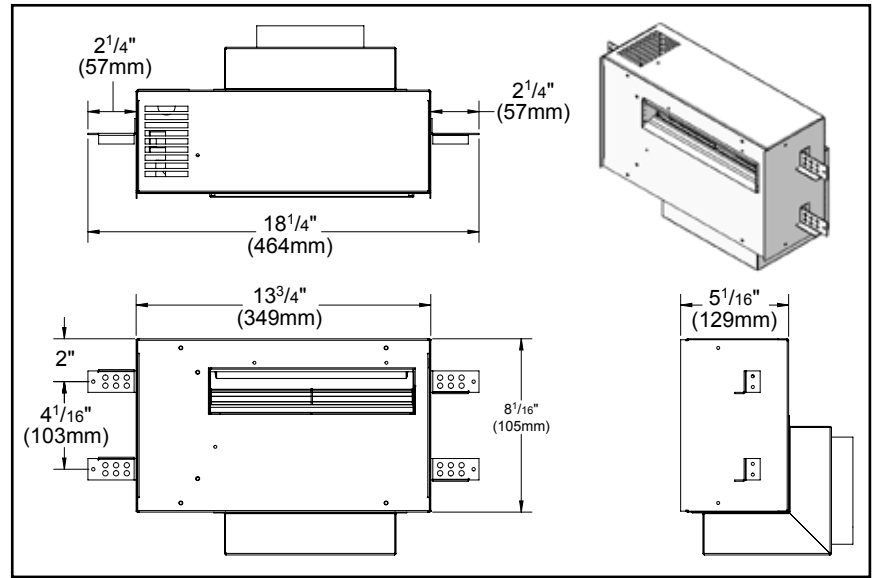
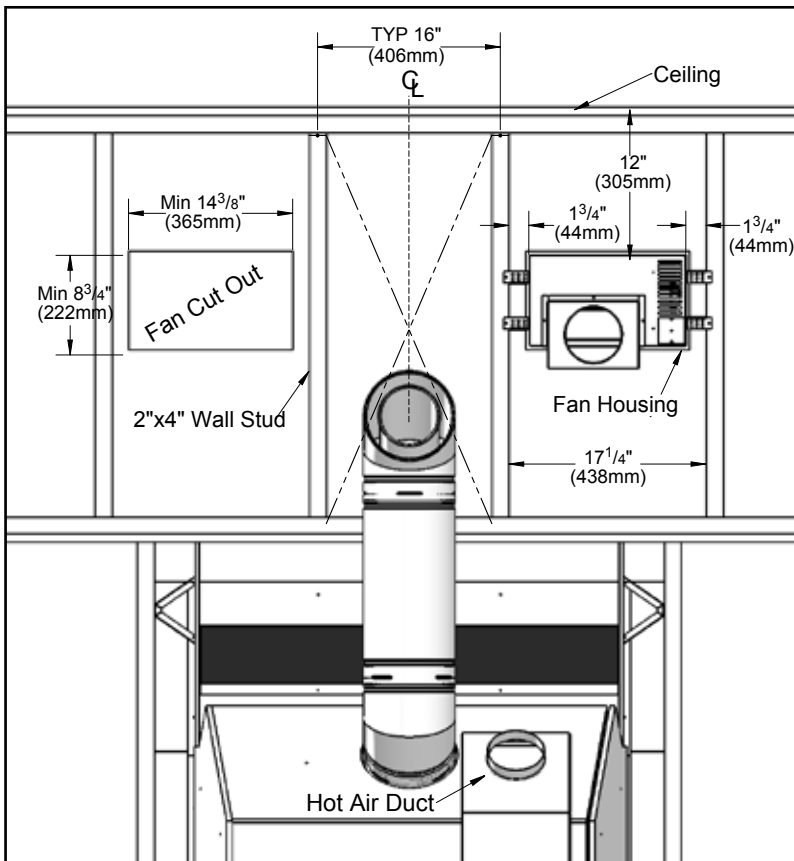

Figure 5: Fan housing overall dimensions.
Figure 6: Minimum Installation Clearances for Fan.
4. With the “FIGURE 5: FAN HOUSING OVERALL DIMENSIONS.” and “FIGURE 6: MINIMUM INSTALLATION CLEARANCES FOR FAN.”